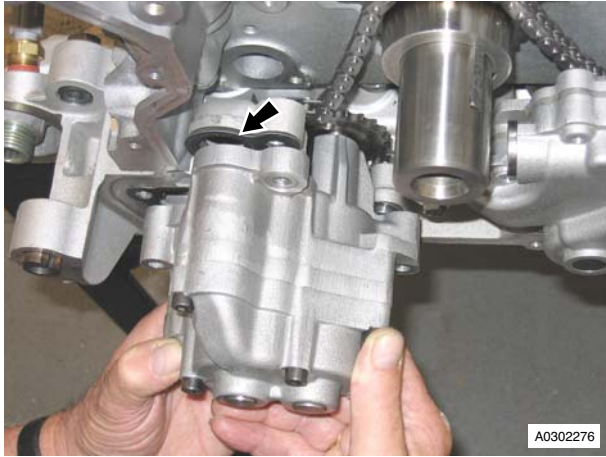

Figure 4
11. Remove and discard oil scavenge pump gasket (see Figure 4).